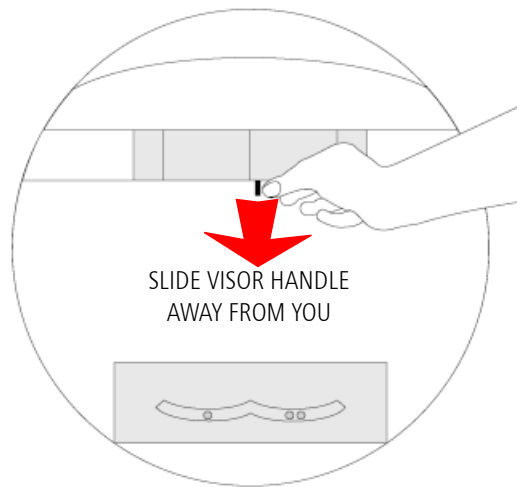

Figure 9.3 Extending the Blue-Yellow Visor Prior to Testing
- 7 Locate the visor handle that is located just below the forehead rest (see Figure 9.3). Slide the handle toward the back of the bowl (away from the patient).